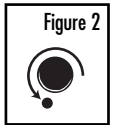

Figure 2
7. Units which have an indicator light must be reset once the HEPA filter has been replaced. Reset indicator by inserting a small object (such as a pin or paperclip) into the hole marked reset. (fig. 2)